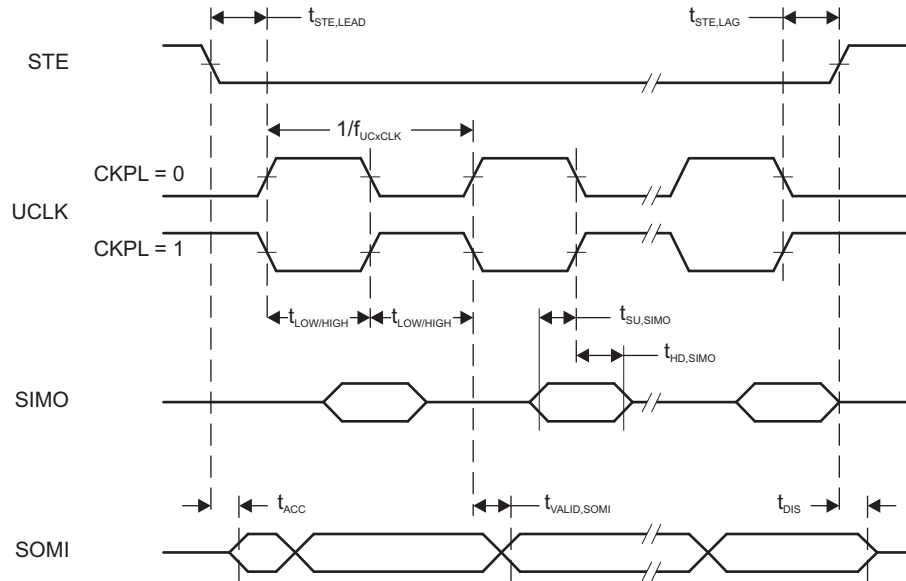

Figure 5-11. SPI Slave Mode, CKPH = 0
- (2) Specifies the time to drive the next valid data to the SOMI output after the output changing UCLK clock edge. See the timing diagrams in Figure 5-11 and Figure 5-12.
- (3) Specifies how long data on the SOMI output is valid after the output changing UCLK clock edge. See the timing diagrams in Figure 5-11 and Figure 5-12.